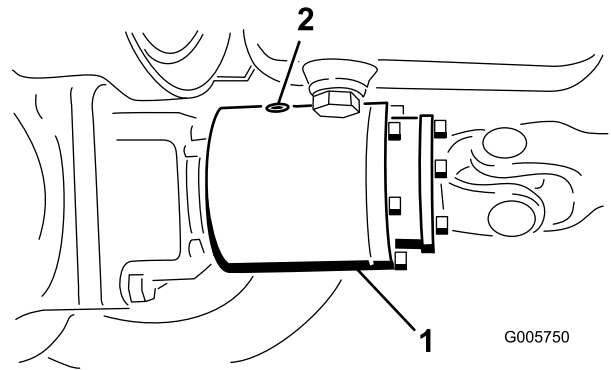

Figure 58
3. Rotate clutch so check plug is positioned downward (Figure 58).